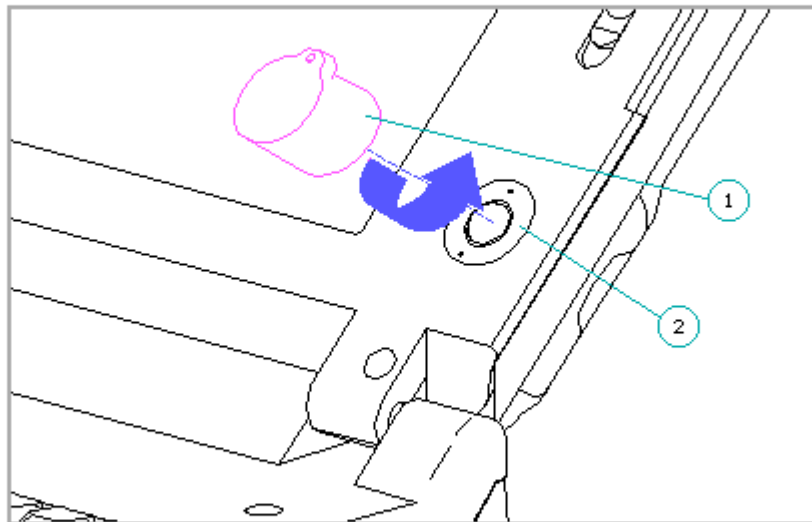

Figure G-1. Removing the Trackball Retaining Ring
3. Place the trackball removal tool [1] over the retaining ring [2] and turn it counterclockwise approximately 100 to loosen it (Figure G-1).